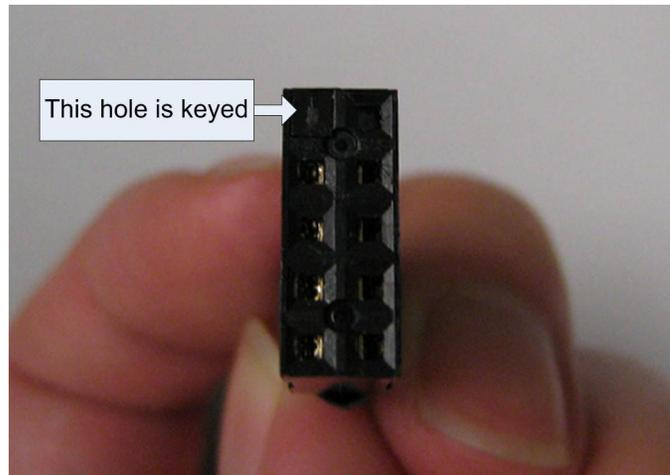
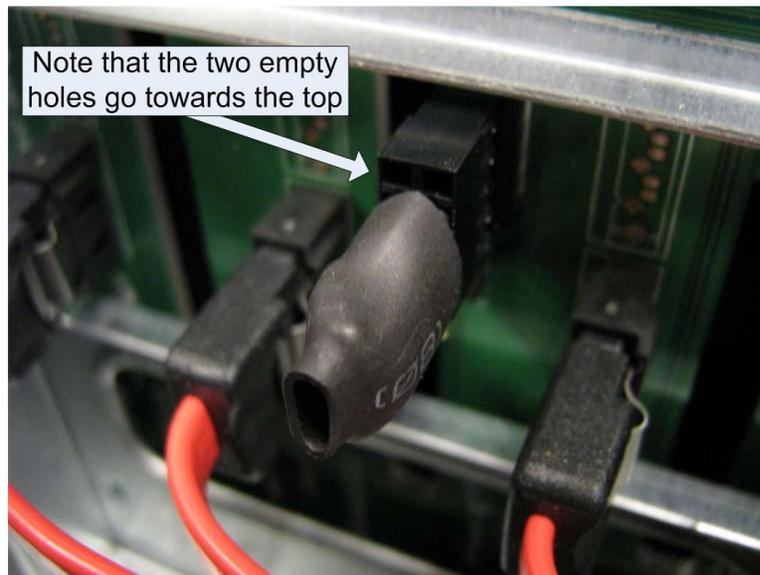
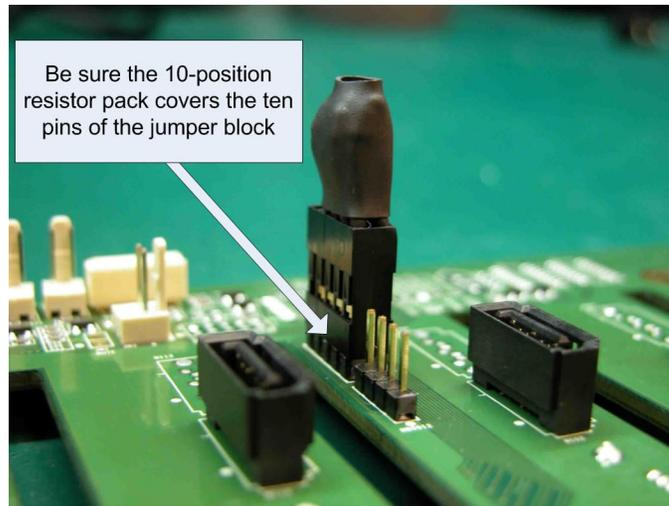

**Figure 9: The empty 10-position header**
**Figure 10: The resistor pack: side view**
**Figure 11: The resistor pack: connector view**
Step 6) For each 10-position header, you must remove the 4-position jumper block as seen in figure 6. You will then see an empty 10-position header like that shown in figure 9. The top-right pin is removed and will provide a guide for installation of the new resistor pack.
Step 7) Familiarize yourself with the resistor pack. Note that two of the positions are empty as seen in figure 10. Also be aware that one of the holes on the connector has been blocked as shown in figure 11. This blocked hole will need to match with the missing pin shown in figure 9.